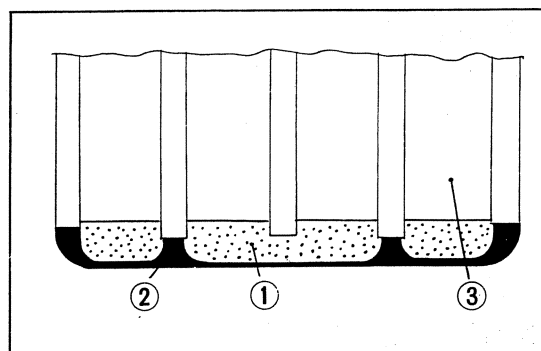

Fig. 162 ① Flaked paste ② Bottom ③ Cathode plate
3) Check the poor battery connection due to corrosion of the connector and terminal, flaking of the paste from vibration and sulfation. The flaked paste remains on bottom remarkably, replace with new one. (Fig. 162)